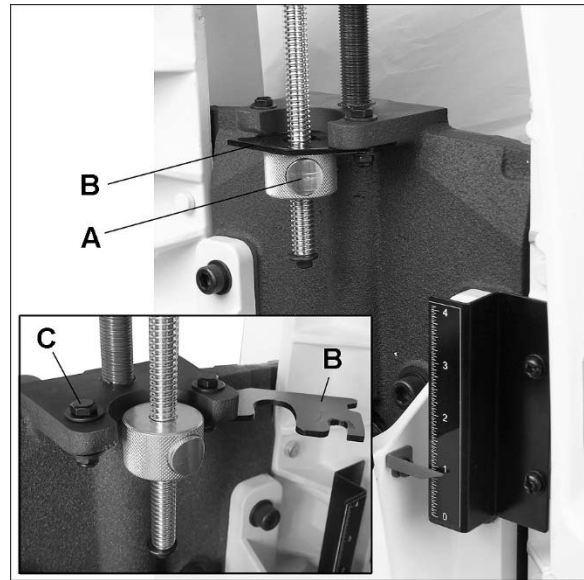

Figure 1
The depth stop nut (A, Figure 1) provides a hard stop at final sanding depth. It ensures that the operator will not sand too deeply when he/she wishes to make multiple pieces the same final thickness.
1. Rotate handle to position drum at *final* sanding depth according to scale. (Figure 1 shows 7/8-inch final depth as example).
2. Press button on stop nut to slide nut into general position, then rotate nut until it firmly contacts bottom of plate (B). One rotation of nut = 0.10 in. of elevation.